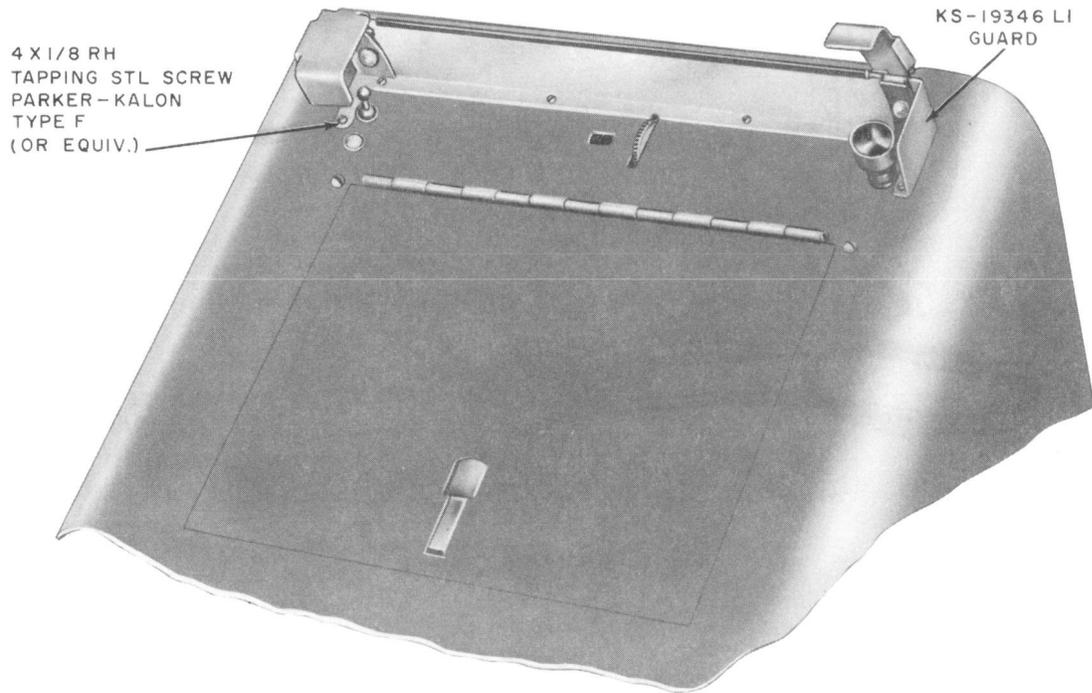

Fig. 8—KS-19346 L1 Guard
3.22 KS-19346 L1 Guard: Fig. 8—Open the switch guards at each end of the KS-19346 L1 guard. Remove the guard mounting screws using the 3-inch C screwdriver. Mount the new guard in reverse order of removal.